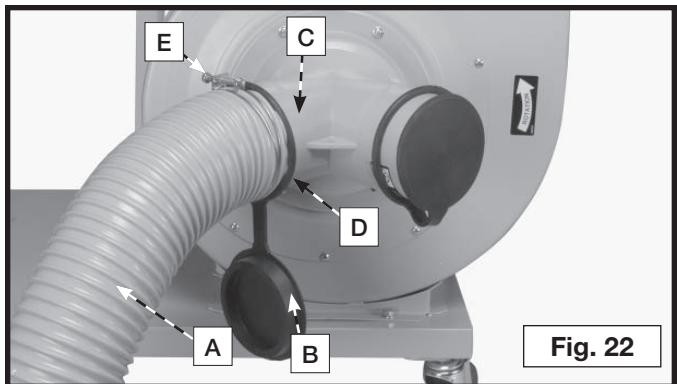

Fig. 22
1. To assemble the intake hose (A) Fig. 22, to the blower assembly, pull the dust cap (B) from the dust intake port (C) and slide the dust cap collar (D) farther onto the dust intake port (C) as shown. **IMPORTANT: DO NOT REMOVE THE INTAKE CAP FROM THE INTAKE PORT.**
2. Place hose clamp (E) Fig. 22, on one end of flexible hose (A) and assemble the hose to dust intake port (C). Tighten hose clamp (E).